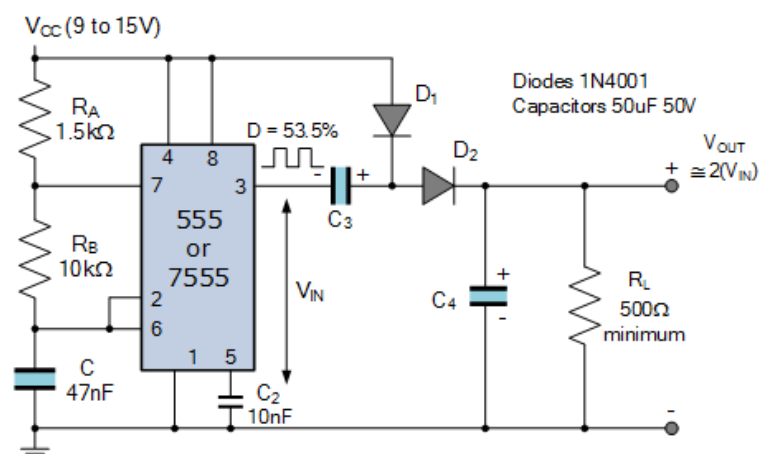
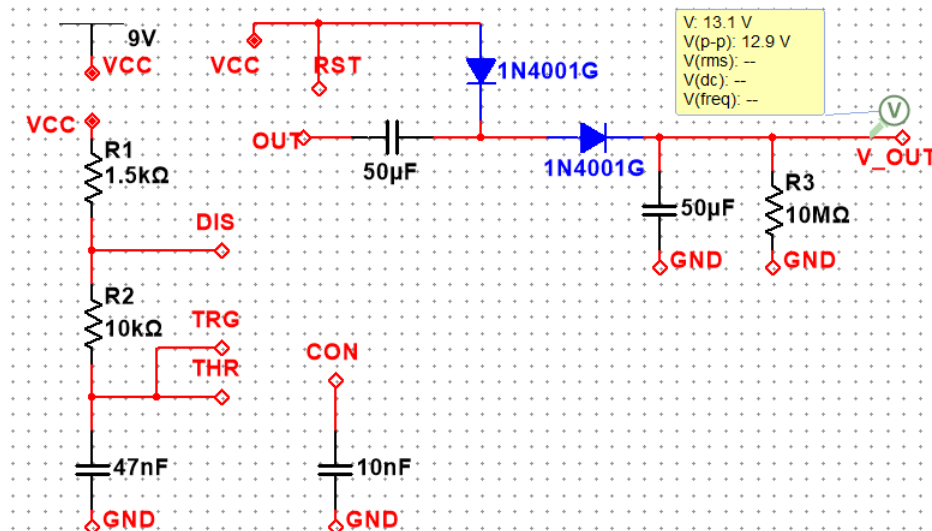

Figure 20: Voltage Doubler circuit from Electronics-Tutorials
Figure 21: DIY 555 Timer and Voltage Doubler Circuit with results
8. In this procedure, we are tasked with finding another way to use a 555 timer. We chose a voltage doubler circuit. Theoretically, this circuit will double the input voltage. In our results, we achieved about a 50% gain on the input voltage. We played around with this for a while and could never figure out why it would only produce a 50% gain. We tried different component values on the voltage doubler circuit and different input voltages, and they all resulted in a 30-50% gain. The way voltage doublers work, this could be from the current through the load resistor being too high. Figure 21 shows our Multisim circuit and Figure 20 shows the voltage divider circuit we adapted from (<https://www.electronics-tutorials.ws/waveforms/555-circuits-part-2.html>).